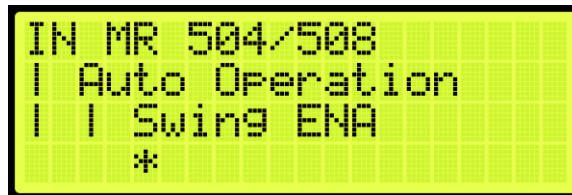

Figure 490: Input Menu – Enable Swing
8. Scroll and select Enable Swing (See Figure 490)